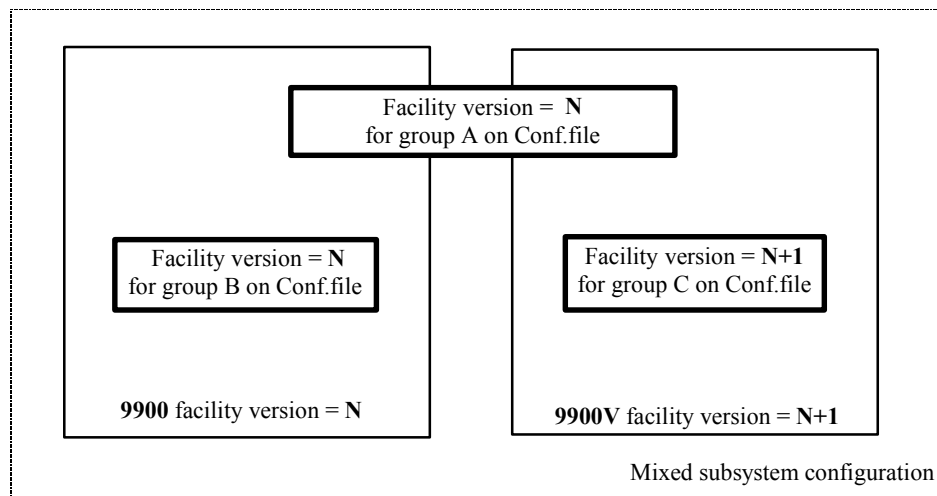

Figure 4.53 Definition of the Group Version
- In a mixed subsystem configuration, if the facility version of each subsystem (e.g., 9900V and 9900) is different on a group, then CCI will slice to a minimum version to make a unification version for each group (see Figure 4.53).